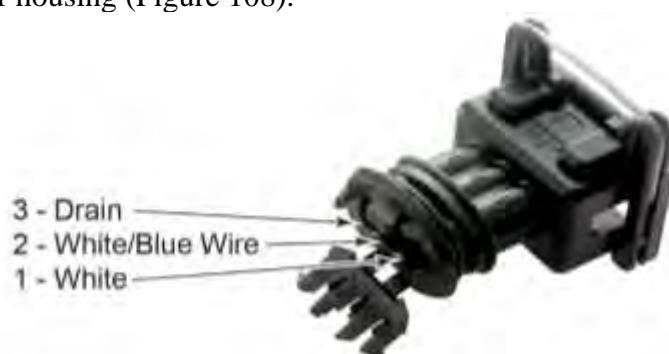

Figure 108
- (1) Locate the drain wire.
- (2) Position contact at position 3 so locking tabs is aligned with locking mechanism in connector housing (Figure 108).